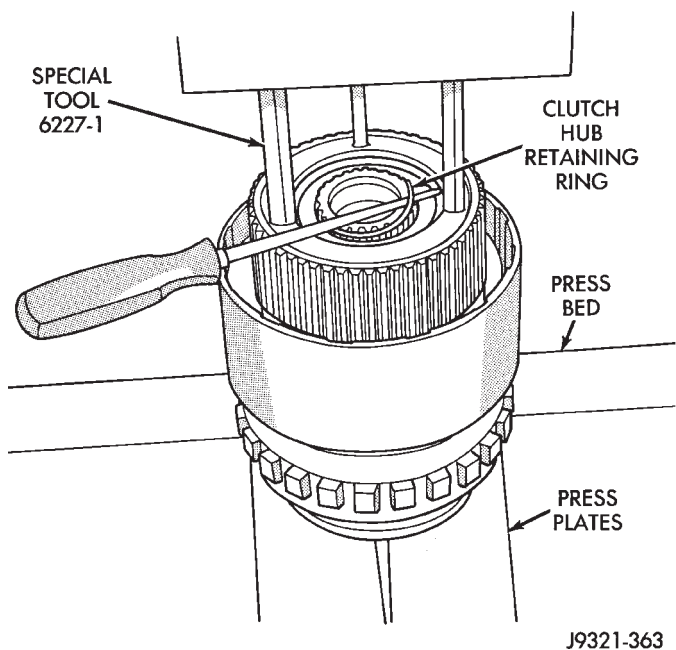

Fig. 21 Direct Clutch Hub Retaining Ring Removal
- (6) Remove direct clutch hub retaining ring (Fig. 21).